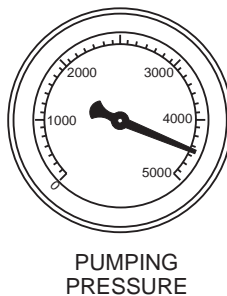

Figure 61. Pumping Pressure Gauge
- The **pumping pressure gauge** (Figure 61) should read approximately 4,300–4,400 psi.